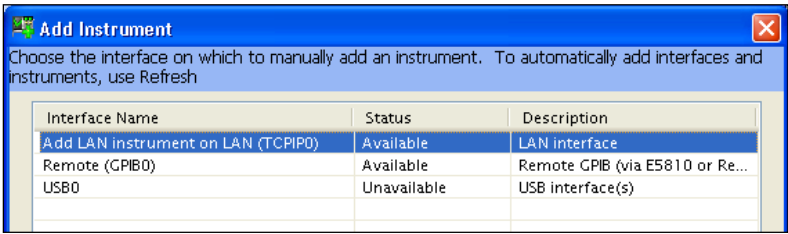

FIGURE 9-3: ADD INSTRUMENT INTERFACE
- 1) Connect the EX1200A LAN port to the Ethernet switch using an Ethernet cable. Connect the function generator, external DMM, and calibrator to the DMM as shown in Figure 9-3 using the EX1200A DMM calibration/verification cable (VTI P/N: 52-0807-000).